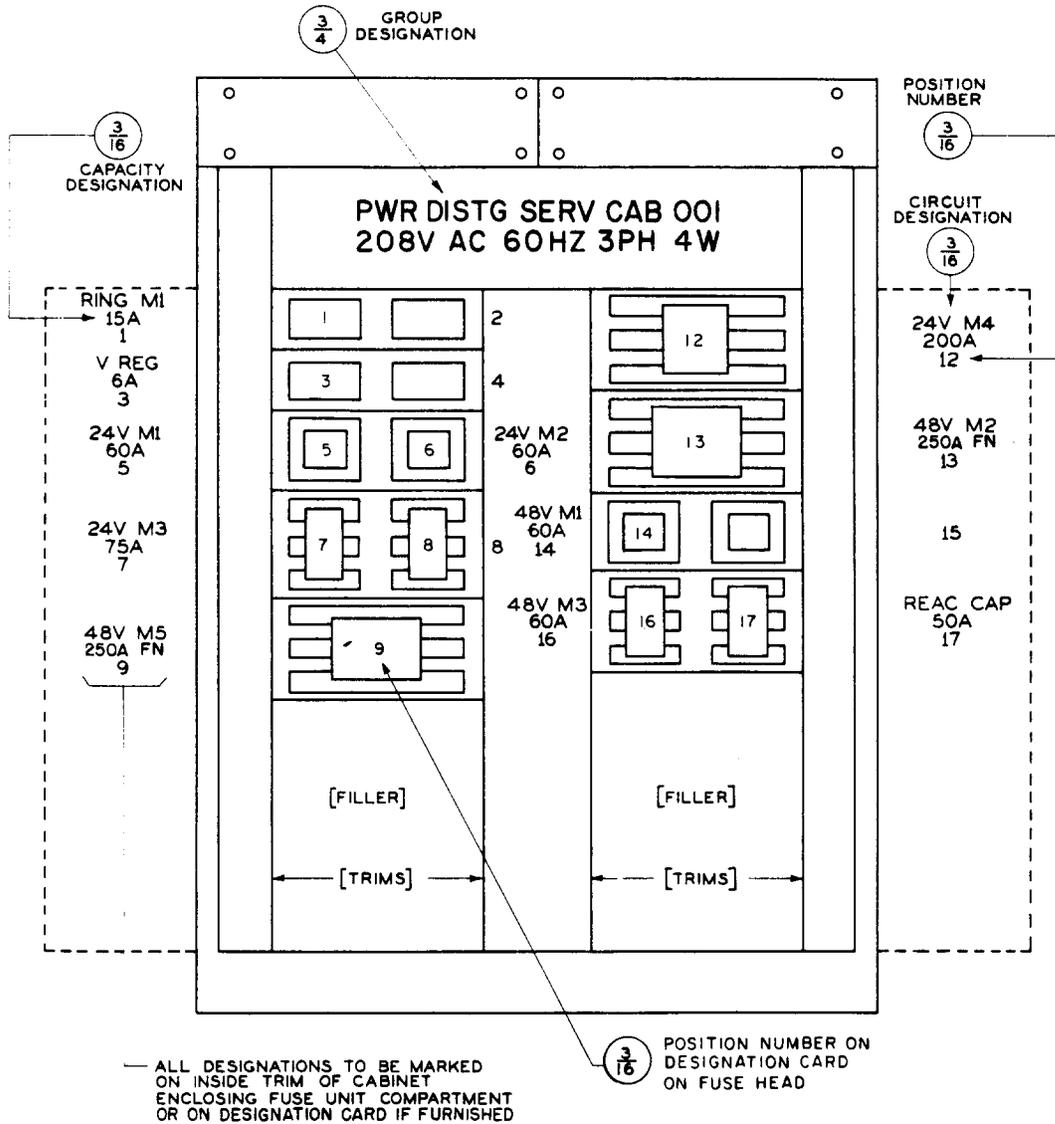

Fig. 29 - Power Distributing Service Fuse Cabinet - Two Bays - Floor-Mounted KS-5774 Type (Two Doors Not Shown)
2.37 Fuse Cabinets: Power distributing fuse cabinets shall have the name and number of the cabinet and voltage and type of service stamped in abbreviated form on the trim above the door, or if no room in the case of small cabinets, on the door itself. Examples of these designations are PWR DISTR SERV CAB 001 208V AC 60HZ 3PH 4W. Use 3/4-inch characters unless small size of wall cabinet makes it necessary to use 3/8 inch. The cabinet number shall consist of three or four digits, the first digit or first two digits to designate the floor number and the last two digits to designate the number of cabinet on floor. Typical cabinets are shown in Fig. 29 and 30. Stamp the name of the circuit with which each set of fuses is associated, the fuse capacity in amperes, and also the fuse position